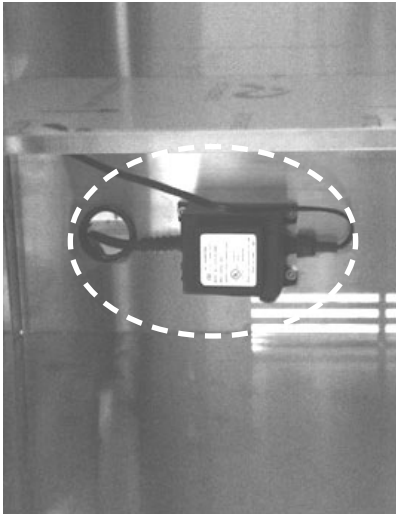

Fig. 1
- a. In a base cart application, four mounting screws with nuts are provided at the bottom left rear corner of the cart. If not provided, drill four holes using the transformer box as a template. Secure the transformer box as shown. (Fig. 1)